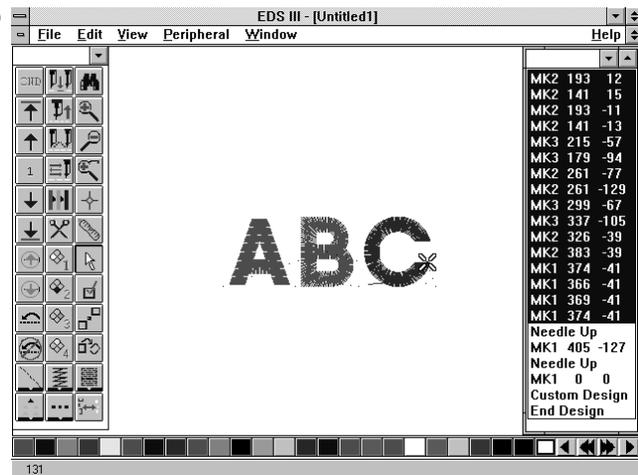

Figure 1-20
5. Move to the location in the design where you want to finish the definition of the selected block. In this example, move through the letter C to the last Mk1 dataset before the Needle Up (see Figure 1-20).